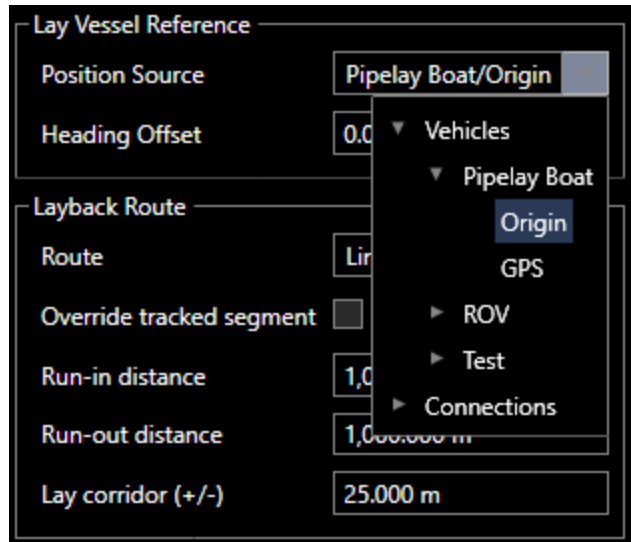

FIGURE 15-27 LAY VESSEL POSITION SOURCES
- **Position Source:** Choose a position source. Note that sources are listed in a hierarchical fashion. Below each vehicle its offsets are listed, as shown in Figure 15-27.